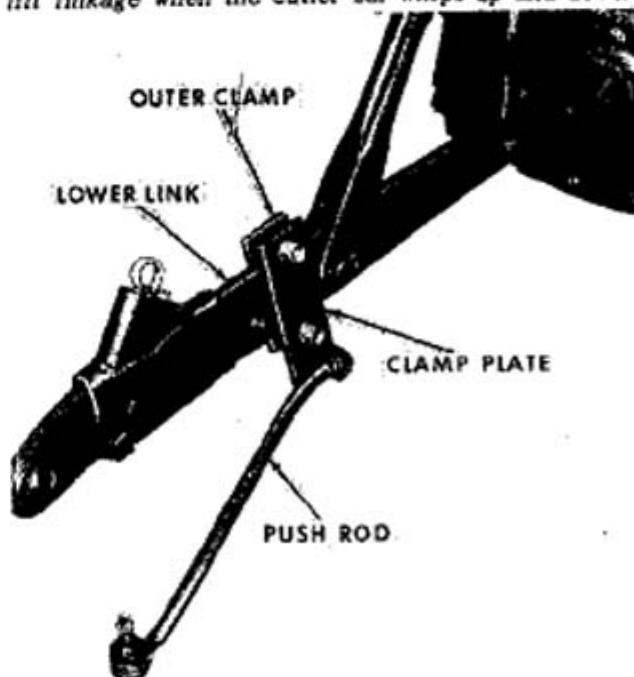

Figure 5
**Ford 5000, 6000 and Fordson Major Tractors:** Install the clamp plate assembly and outer clamp on the left lower link and the push rod to the clamp plate, as shown in Figure 5.